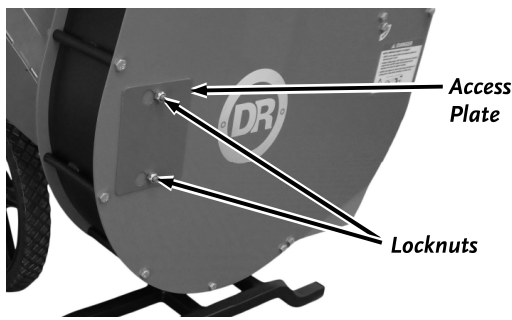

Figure 19
2. Loosen the Locknuts on the Access Plate using a 1/2" Wrench, slide the Plate to the side to align the holes with the Locknuts, and remove the Access Plate (**Figure 19**).